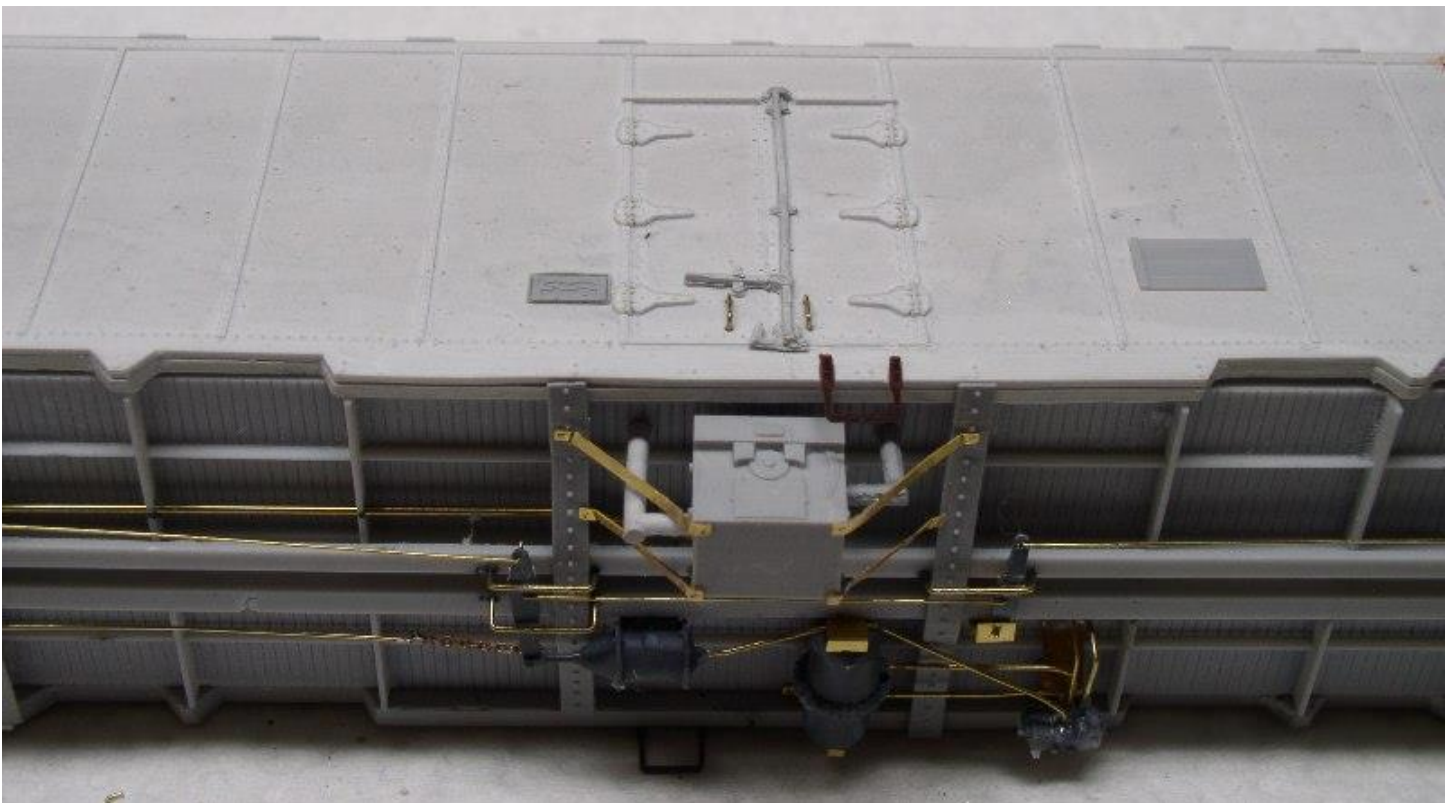

Figure LD3
- Add the stirrup steps in the holes you drilled earlier under to the right of the doors. See Figure LD3.